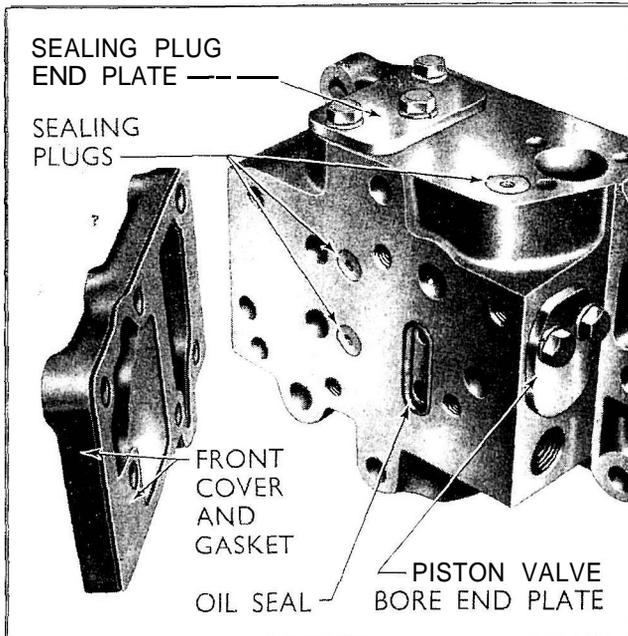

Fig. 189
1 Unscrew and remove the six bolts (and lockwashers) retaining the cover plate to the valve body. Detach the cover plate and gasket which will expose a rubber sealing ring in a recess in the centre of the body. (See Fig. 189.) Remove this sealing ring.
- 4 Insert a screw ($\frac{1}{16}$ in. dia.) in the tapped hole of each of the sealing plugs and pull them out of the valve body. (See Fig. 189.)